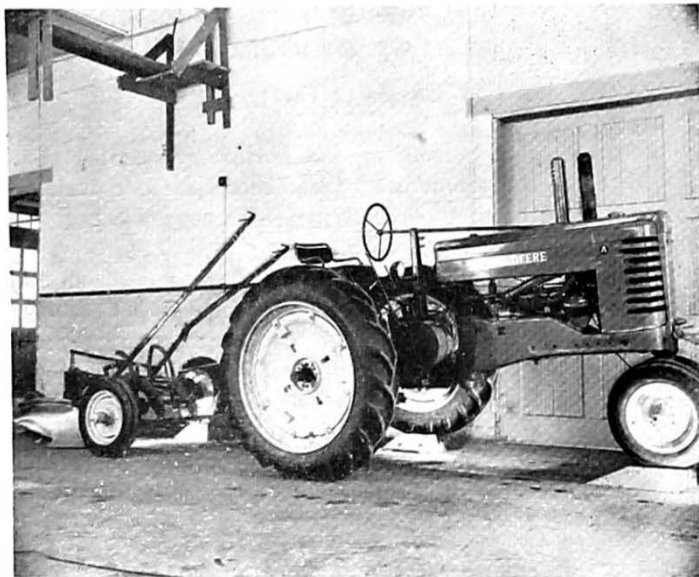

Fig. 9. Illustration showing the tractor and plow blocked up in plowing position as described in Steps 2 and 3. The blocks are 6 inches high.
- b. Block up front and rear land tractor wheels which run on the land a distance equal to the depth of plowing. Six inches is the most common depth of plowing in Iowa. (See fig. 9.)